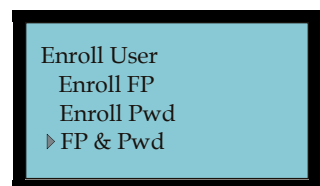

Figure 2-42 Enroll User Menu
3. Press **OK** to display the Enroll User menu and select FP & Pwd (see **Figure 2-42**).